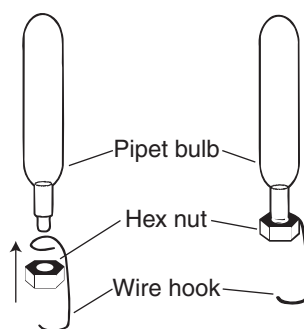

Figure 3.
2. **Cartesian Retrievers.** Place two divers in the same bottle—one that barely floats and one that barely sinks, but with mechanisms or devices attached to them that will enable the floating one to dive down and retrieve the sunken one off the bottom. Use magnets, chewing gum, Velcro, a suction cup, a net, a hook and handle—whatever works (see Figures 3 and 4)!